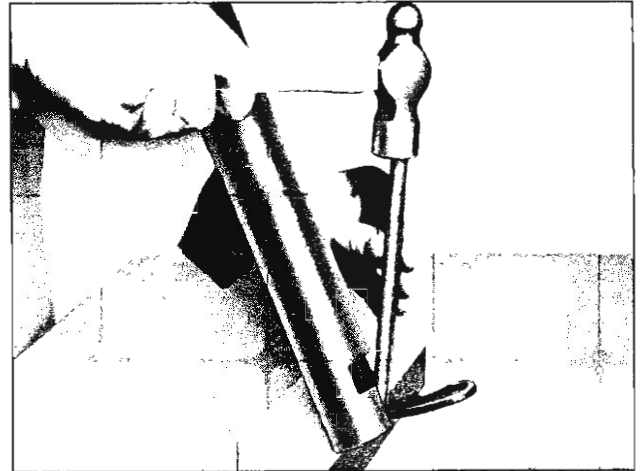

Fig. 27—Removing the Shift Tube
20. Remove the shift tube downward through the column as follows: support the mast jacket on the edge of a wood block and drive against the inner end of the lower shift lever with a hammer and metal rod. Perform this operation carefully so that the shift lever is not bent or distorted (fig. 27).